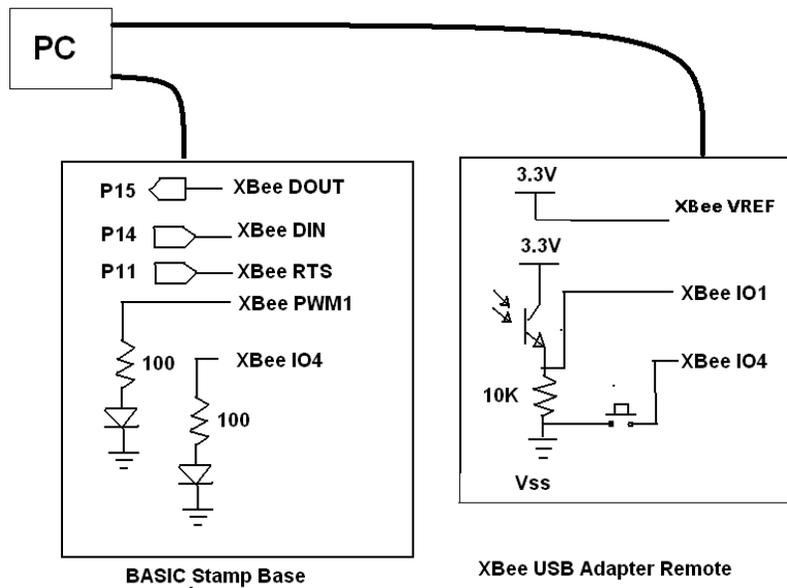

Figure 6-11: BASIC Stamp Testing Hardware Configuration
The code, `API_Base.BS2`, will be used to send and receive framed data in API mode to highlight some of the nice features of API mode and the XBee module in this mode. The code is very long and memory intensive. Further on we will discuss some tricks to use less memory, but generally these tricks reduce the amount of data received and nearly eliminate the need to use API mode in the first place. The configuration in Figure 6-11 is used to test `API_Base.bs2`. The base XBee is controlled and monitored via the BASIC Stamp Debug Terminal and the remote XBee on USB for power using X-CTU for a terminal. An array of 18 bytes called `DataSet` is used to hold the incoming and outgoing frame.
- ✓ Configure the hardware as showing in Figure 6-11.